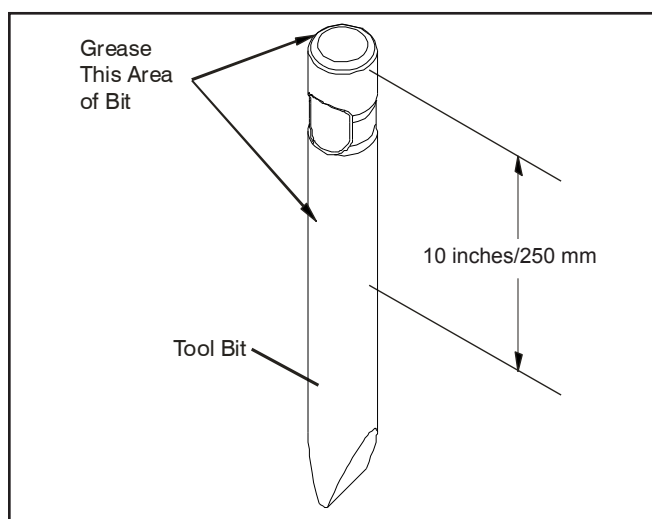

Figure 1. Greasing the Top of the Tool Bit
1. The tool retainer (17) is shipped installed in the breaker (see parts illustration).
3. Grease the top area of the tool bit as shown in Figure 1 page 9.